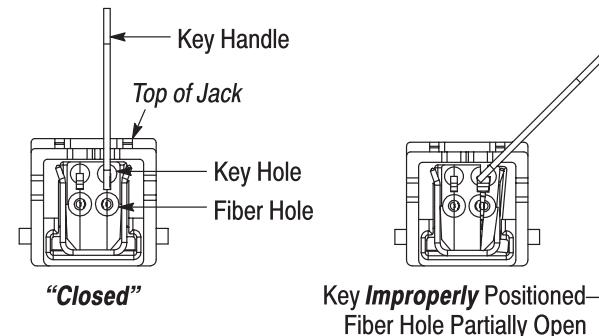

Figure 7
5. Insert the fiber further into the fiber hole until it bottoms. See Figure 7, Detail A. If the fiber stubs while inserting it into the fiber hole, slightly turn the fiber, and continue to insert the fiber into the hole. The fiber is fully inserted into the fiber hole when the stripped portion of the fiber is inside the jack.
6. Hold the fiber in place using enough pressure to create a slight bow in the fiber, then *SLOWLY* rotate the key handle 90° (one-quarter turn) toward the inside of the jack. DO NOT “flip” the key handle. Refer to Figure 7, Detail B. The fiber is now terminated to the jack.